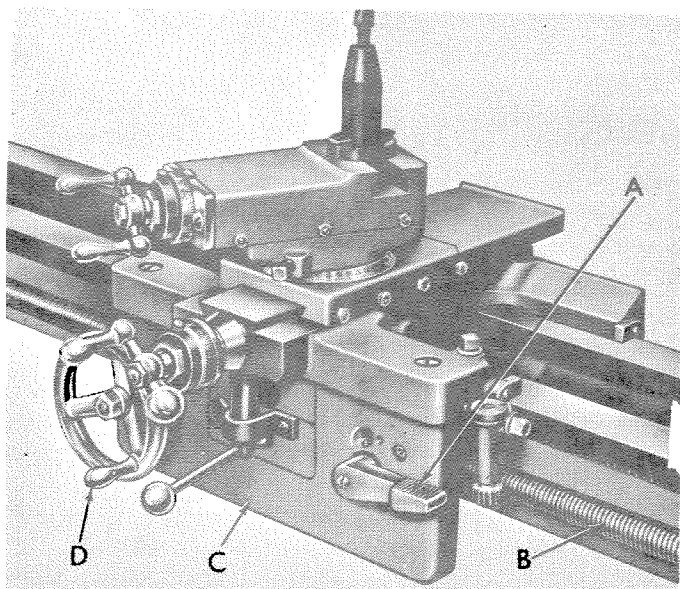
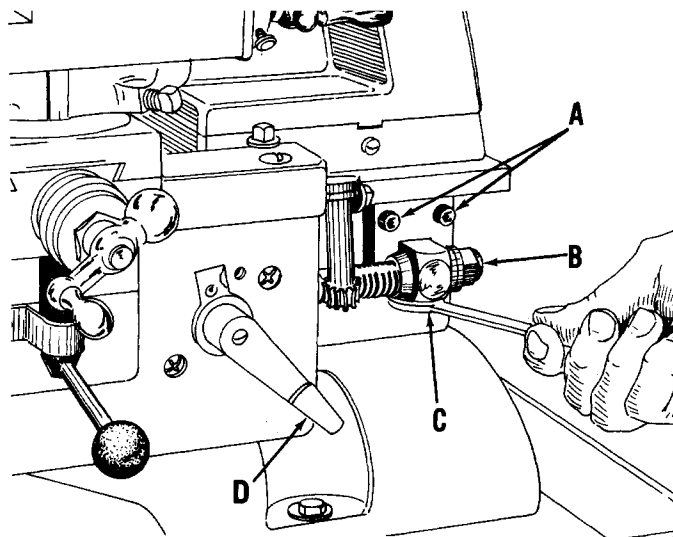

FIGURE 20
FIGURE 22
1. Raise half nut lever (A, Fig. 20) disengaging half nuts from lead screw (B).
2. Move carriage (C, Fig. 20) to tailstock end of lathe.
3. Loosen but do not remove socket cap screws (A, Fig. 22).
4. Loosen but do not remove hex cap screw (C), or socket set screw on some lathes.
5. Lower half nut lever (D) as shown above to engage half nuts.
**CAUTION:** WHEN ENGAGING HALF NUTS BE SURE HALF NUTS AND LEAD SCREW THREADS MESH FULLY - IT MAY BE NECESSARY TO MOVE CARRIAGE (C, FIG. 20) SLIGHTLY WITH HANDWHEEL (D) WHILE ENGAGING HALF NUTS.
6. Tighten screws (A, Fig. 22).
7. Tighten screw (C, Fig. 22).
8. Rock carriage back and forth using handwheel (D, Fig. 20) and check lead screw end play.
If end play is evident, tighten cone lock nut (B, Fig. 22) just enough to eliminate play - - do not over-tighten.